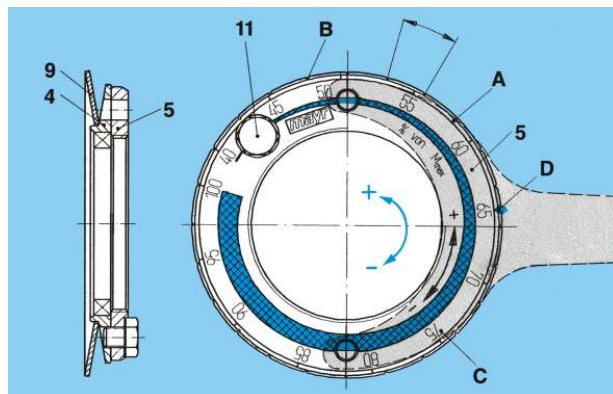

Fig. 10
## Indicated torque adjustment (Fig. 10)
## Torque adjustment (Figs. 10, 11, and 12)
Turning the adjusting nut (5) within the setting range in a clockwise direction reduces the torque, and in anti-clockwise direction increases the torque. Viewed in the direction of the adjusting nut (5) as indicated on Figs. 10 and 11.
- Remove the retaining screw (11) from the adjusting nut (5).
- Turn the adjusting nut (5) clockwise or anti-clockwise with the use of a face wrench according to the engraved graduation (Fig. 10) until the required torque is set.
- The required torque is achieved when the graduation (D) in the retaining ring (4) and the indication on the percentage (C) in the adjusting nut (5) (Figs. 10 and 11) is overlapped.
- Put Loctite 243 onto the retaining screw (11) and screw it into the adjusting nut (5); the 4 graduations (A) in the adjusting nut (5) and the graduations (B) in the retaining ring (4) must remain in the same position (10). If necessary, a slight correction must be made.